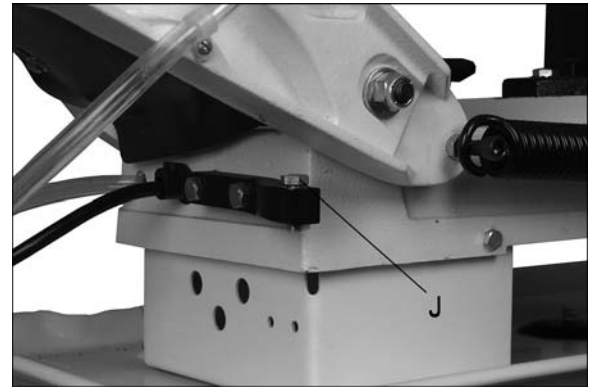

Figure 8
8. Turn stop screw (J, Figure 8) as needed, until cutting plate is level. Tighten hex nut.